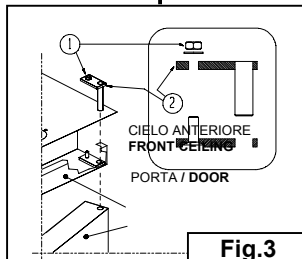

Fig.3
-Per estrarre la porta (Fig.3), togliere il dado Pos.1, e la piastra Pos.2.
-To remove the door from its housing (Fig.3), unscrew the bolt Pos. 1 and remove the plate Pos. 2.